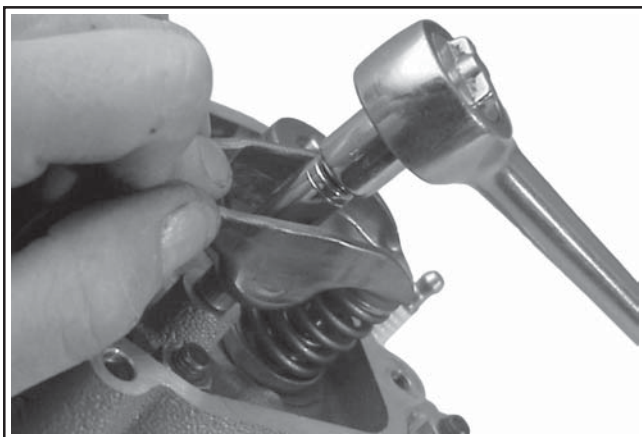

Figure 11-34. Establishing “0” Lash/ “0” Preload.
10. **With the lifter still compressed**, slowly tighten the rocker arm fastener (clockwise) until the free end of the rocker arm just makes contact with the end of the valve. See Figure 11-34.